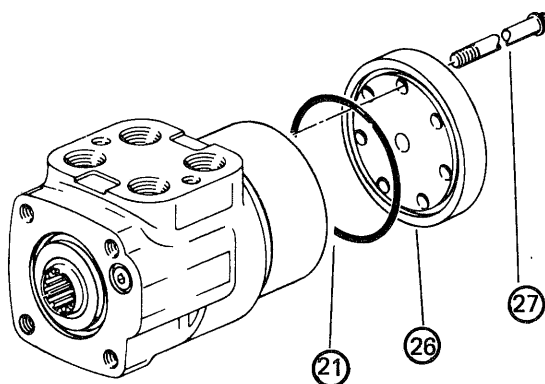

Fig. 127
- (2) Remove seven 5/16-inch screws (27) (Fig. 127)
- (3) Separate end cap (26) (Fig. 127)
- (4) Remove O-ring (21) from end cap (26) (Fig. 127)